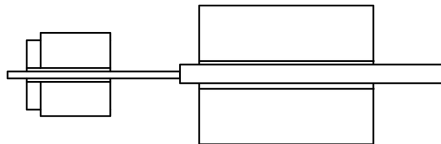

Fig. 7-3 Comparison between two gripping ways
- 2) **End-faces of fiber coating should be pressed by edge of the gripper base as shown in Fig.7-3**